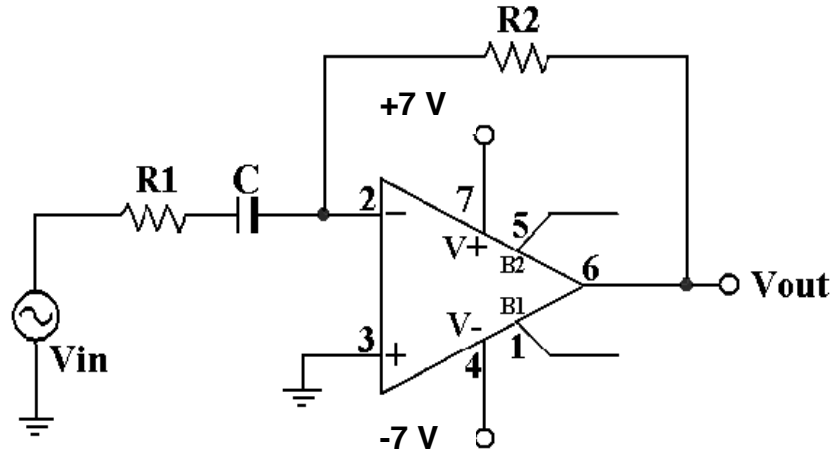

Fig 4. First order high pass filter (pseudo-differentiator) circuit
The output is proportional to the derivative (s term), and the output voltage increases monotonically as the frequency increases. Fig. 4 shows the circuit configuration for a commonly used pseudo-differentiator or high pass filter.
4. For the first order high-pass filter shown in Fig. 4 with power supplies  $\pm 7$ V, and assuming the Opamp is ideal, derive the time-domain equation of the output in terms of the input. Show that the circuit performs the function of a differentiator.